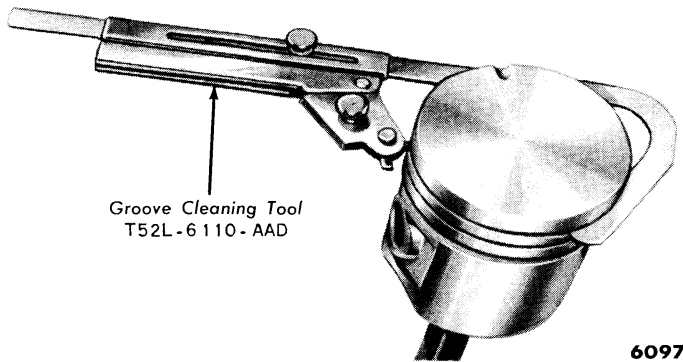

Fig. 38—Cleaning Ring Grooves
(1) **CLEANING AND INSPECTION.** Remove the carbon deposits from the pistons. Clean the piston ring grooves with a ring groove cleaner (fig. 38). Make sure the oil ring slots (or holes) are clean.